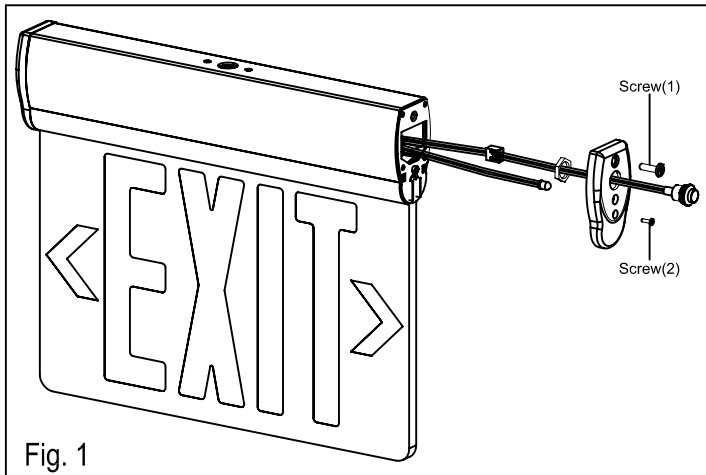

Fig. 1
1. Loosen screws on the right plastic cover and open it. (See Fig. 1 on Page 2)